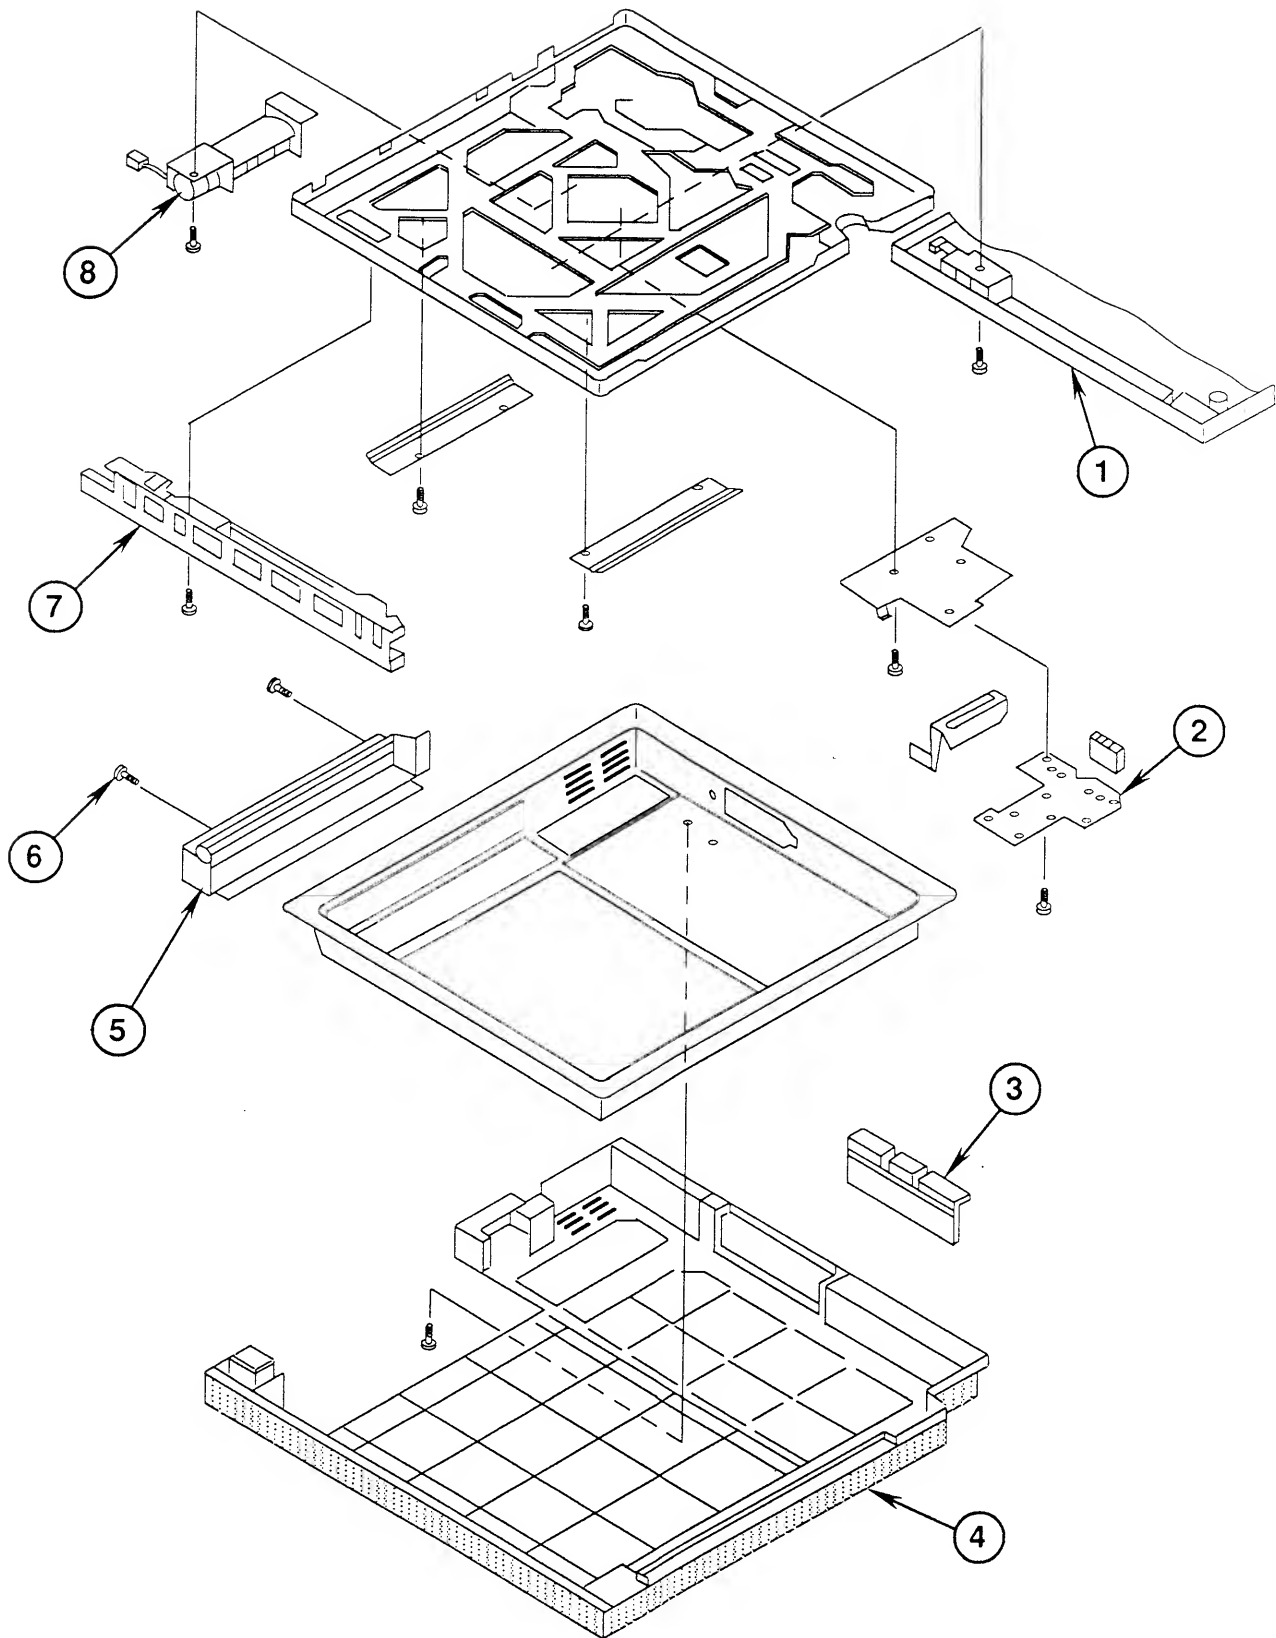

FIGURE 5
IPL.11	Bottom Case, #2 (Figure 5)
□ BOTTOM CASE, #2 (Figure 5)